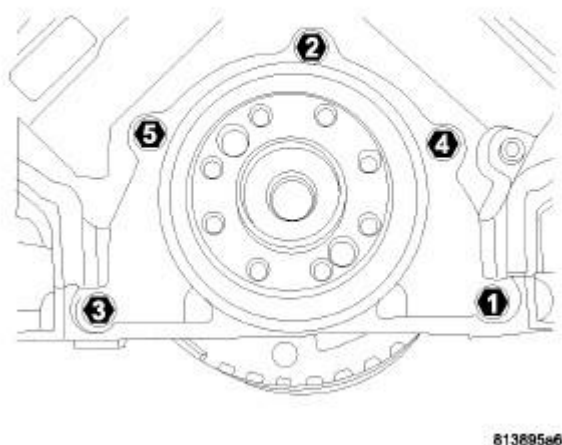

Fig. 165: REAR SEAL RETAINER TORQUE SEQUENCE
4. Using the sequence shown in **Fig. 165**, install the crankshaft rear oil seal retainer mounting bolts and tighten to 15 N.m (11 ft. lbs.).